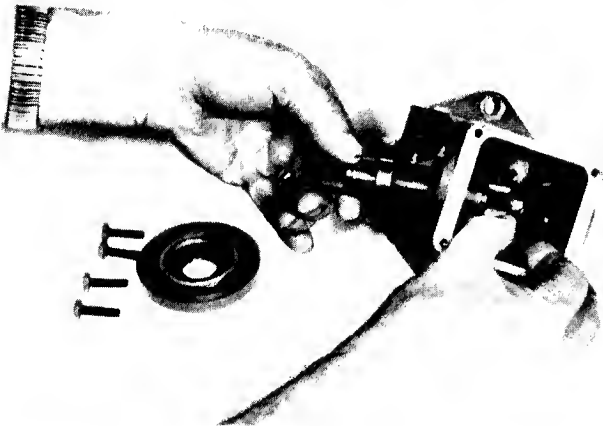

FIG. 4.18-PULLING INPUT SHAFT
6. Pull input shaft and bearing out of housing and gear as shown in Fig. 4.18.
6. Install input shaft with bearing into housing and gear, as shown in Fig. 4.18.